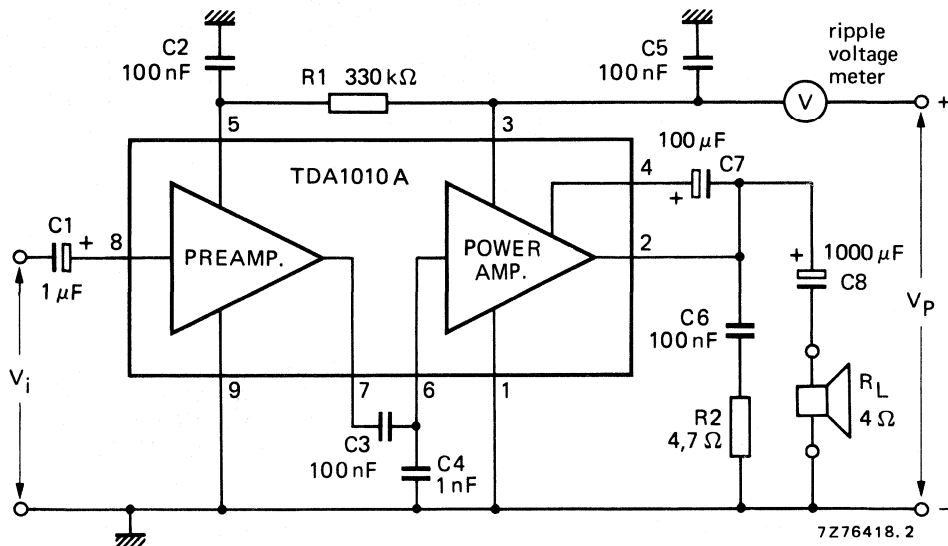

Fig. 3 Test circuit.
$T_{amb} = 25$ °C; $V_P = 14,4$ V; $R_L = 4$ Ω ; $f = 1$ kHz unless otherwise specified; see also Fig. 3.
Fig. 4 Output power of the circuit of Fig. 3 as a function of the supply voltage with the load impedance as a parameter; typical values. Solid lines indicate the power across the load, dashed lines that available at pin 2 of the TDA1010. $R_L = 2 \Omega$ (1) has been measured with an additional 220Ω bootstrap resistor between pins 3 and 4. Measurements were made at $f = 1 \text{ kHz}$, $d_{\text{tot}} = 10\%$, $T_{\text{amb}} = 25 \text{ }^\circ\text{C}$.
Total harmonic distortion in the circuit of Fig. 3 as a function of the output power with the load impedance as a parameter; typical values. Solid lines indicate the power across the load, dashed lines that available at pin 2 of the TDA1010. $R_L = 2 \Omega$ (1) has been measured with an additional 220Ω bootstrap resistor between pins 3 and 4. Measurements were made at $f = 1 \text{ kHz}$, $V_p = 14,4 \text{ V}$.
Fig. 7 Total power dissipation (solid lines) and the efficiency (dashed lines) of the circuit of Fig. 3 as a function of the output power with the load impedance as a parameter (for $R_L = 2\ \Omega$ an external bootstrap resistor of $220\ \Omega$ has been used); typical values. $V_P = 14,4\ V$; $f = 1\ kHz$.